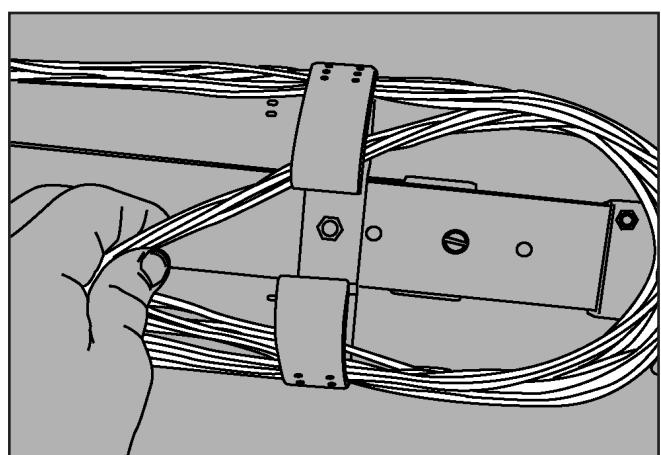

Figure 21
21. If necessary, buffer tube crossovers can be made within the bracketed organizational system. (Figure 21)